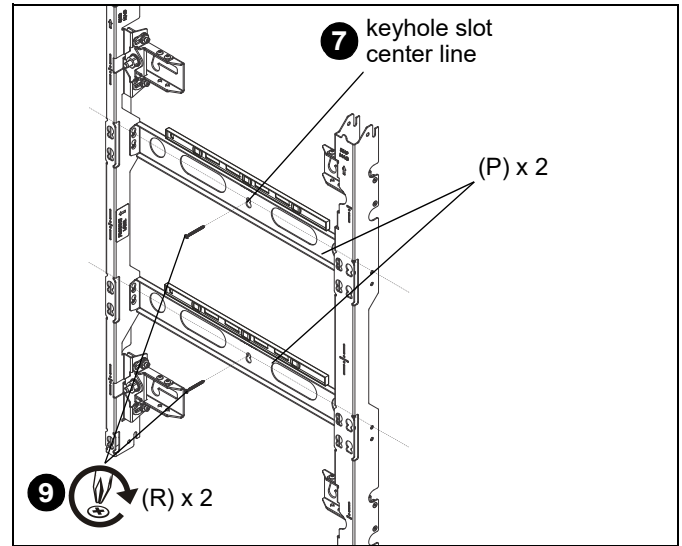

Figure 6
7. Make a mark at the centerline for the horizontal spacer brackets based on the mount height. Refer to drawings on pages 18-20 for the distance from the spacers to the bottom of the display. (See Figure 6)
8. Using a level, mark horizontal lines across width of LED wall from the marks made in Step 7. (See Figure 6)
9. Hold mount section up to wall, lining up keyhole slot with line drawn in Step 8. (See Figure 6)
10. Use #8 x 2" Phillips drywall screw (R) to secure spacer plates (P) to wall. Use a level to make sure spacers are level before tightening screws. (See Figure 6)